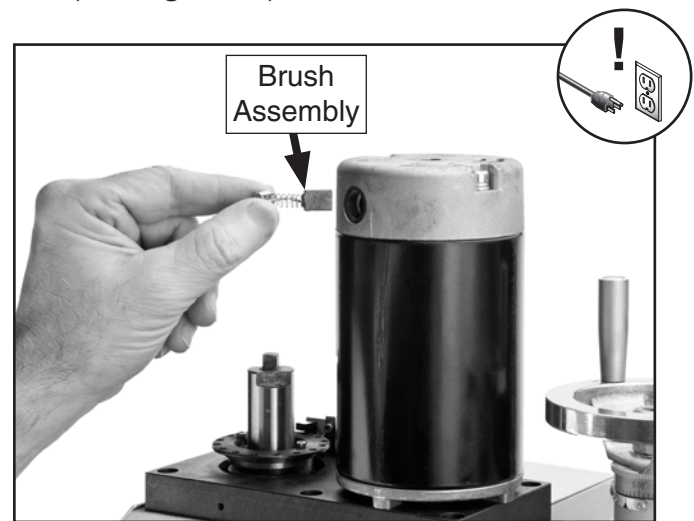

Figure 48. Inserting new motor brush.
4. Remove old brush assembly. If brush is worn down to less than 1/4", then replace it with a new one. Otherwise re-install old brush (see **Figure 48**).